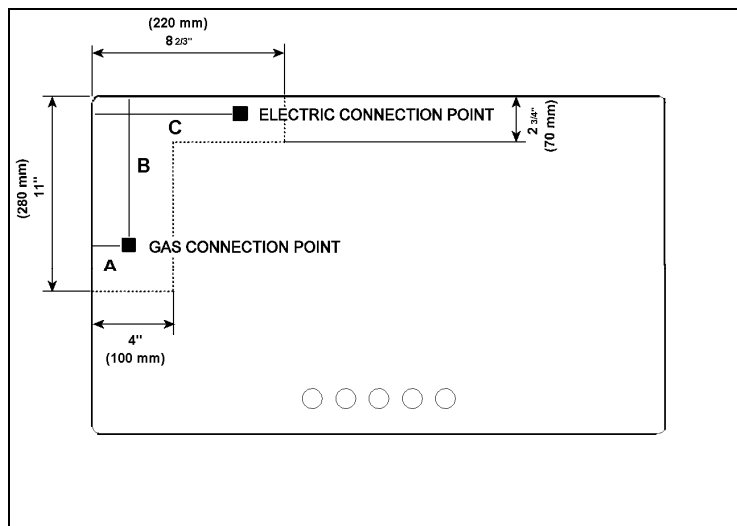

Fig.5B
3. Before installing the hotplate consider the location of the gas supply and routing the gas line.(Refer fig.5B)